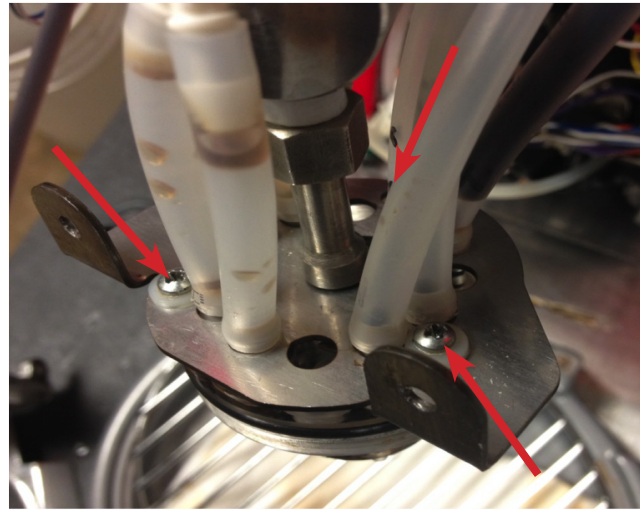

FIGURE 4: REMOVAL OF NOZZLE
- C. Remove the three (3) screws holding the nozzle to the nozzle bracket and gently pull the nozzle away from the bracket and tube fittings (See Figure 4).